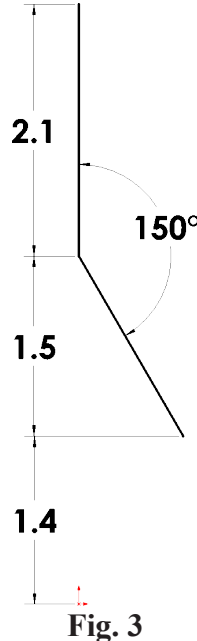

Fig. 3
Step 6. Add dimensions, **Fig. 3**.